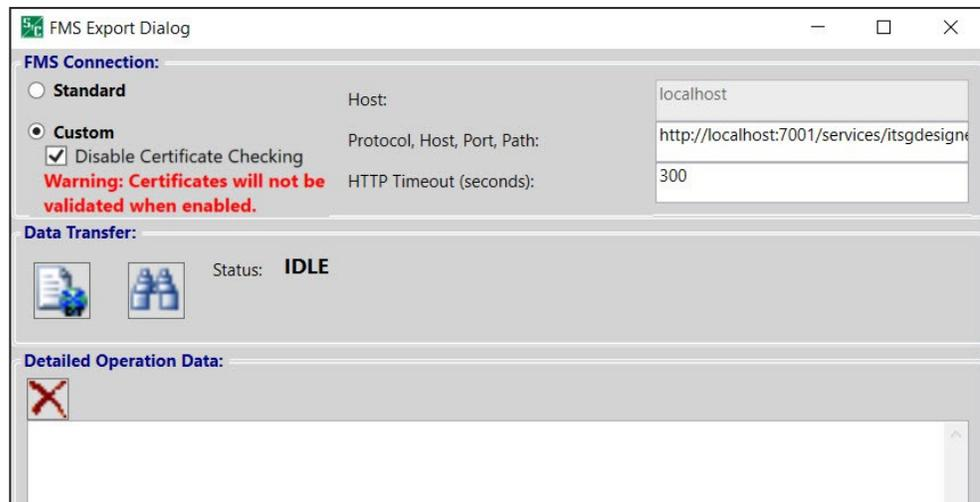

Figure 143. The FMS Export Dialog screen.
**STEP 7.** The **FMS Export** Dialog screen will open. See Figure 143.